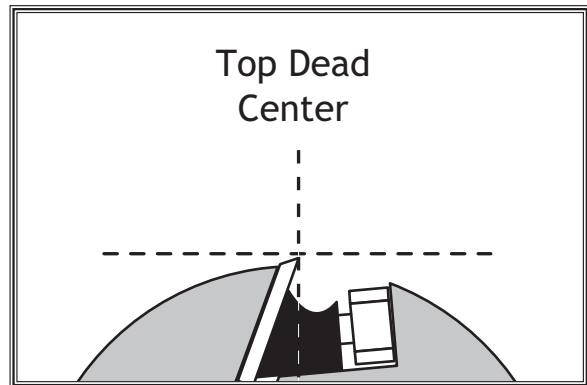

Figure 18. Cutterhead knife at top-dead-center.
2. Rotate the cutterhead pulley until one of the knives is at top-dead-center (TDC), as illustrated in Figure 18.